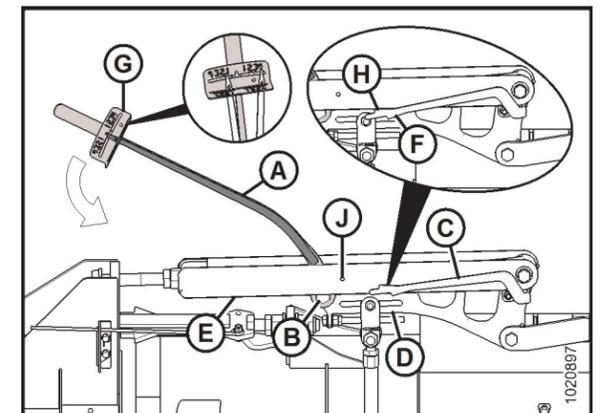

Figure 9: Wing Balance Linkage, Wings Set too Heavy – Left Side, Right Opposite
- Move the wing downward with torque wrench (A) until the pointer's upper alignment tab (H) lines up with the lower edge of the top-link (E). Refer to Figure 9. Observe the indicator reading (G) on the torque wrench and record it.